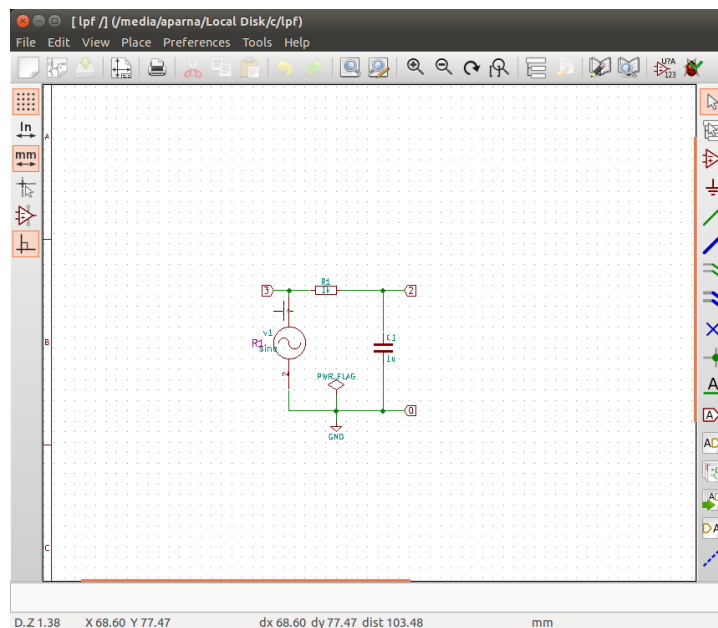

Figure 11.1: Circuit schematic: Low pass filter
1. Open the schematic and create the circuit as shown in Fig. 11.1.